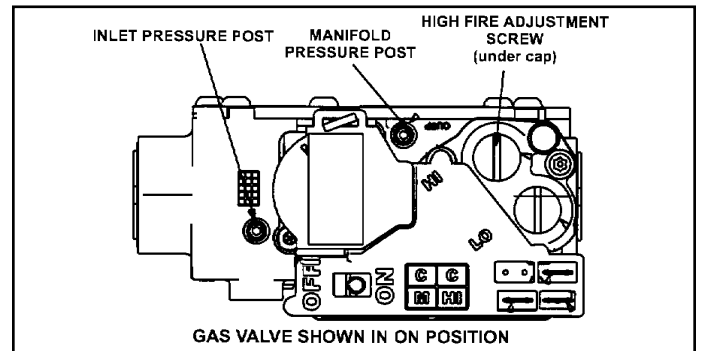

Figure 76.
- Move gas valve switch to OFF. See Figure 76.
- Move gas valve switch to ON. See Figure 76.
An inlet pressure post on the inlet side of the gas valve provides access to the supply pressure. See Figure 76. Back out the 3/32 Hex screw one turn, connect a piece of 5/16" tubing and connect to a manometer to measure supply pressure.
1. A manifold pressure post located on the gas valve provides access to the manifold pressure. See Figure 76. Back out the 3/32 Hex screw one turn, connect a piece of 5/16" tubing and connect to a manometer to measure supply pressure.
6. Repeat on high fire and compare to value given in Table 28. If necessary, make adjustments. Figure 76 shows location of high fire and low fire adjustment screws.